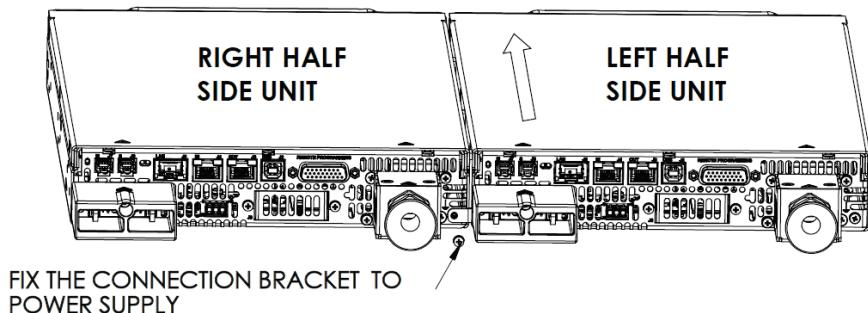

Figure 4-9: Assembly Lock
6. Tighten the ground screw previously unscrewed (Sems screw M3X8), back to the rear panel through the hole in the connection bracket as shown In Figure 4-9.